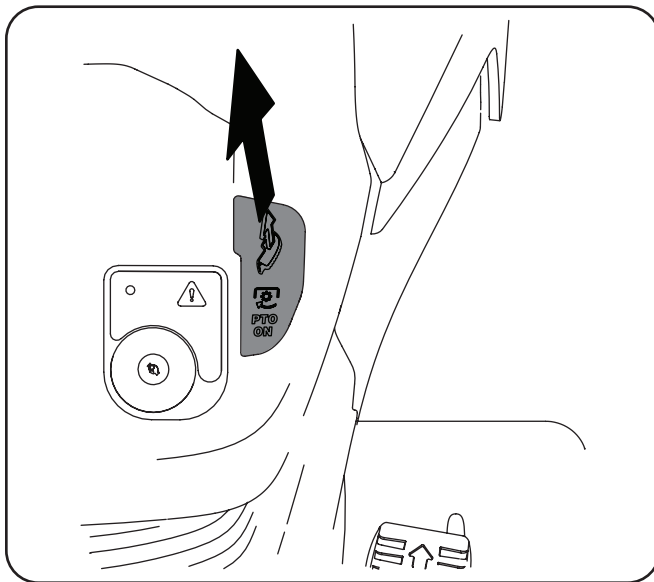

Figure 5-3
2. Pull the PTO/Blade Engage Lever  upward into the ON position. See Figure 5-3.